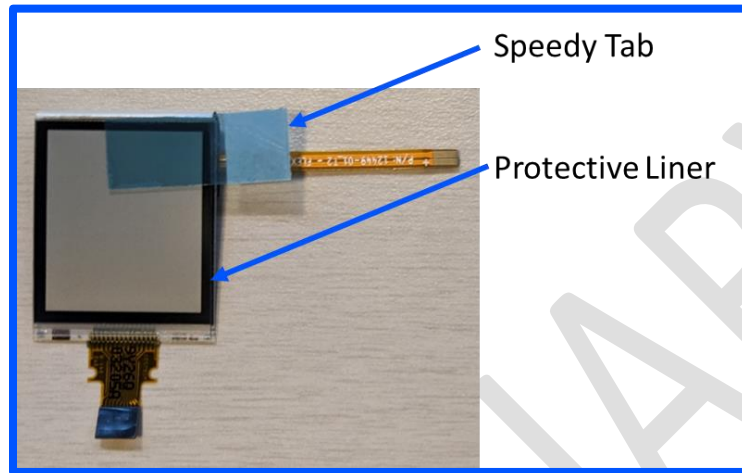

Figure 11. Identification of protective line and speedy tab.
- The protective liner should remain on the front lit display until its removal is necessary for final installation (refer to Figure 11).